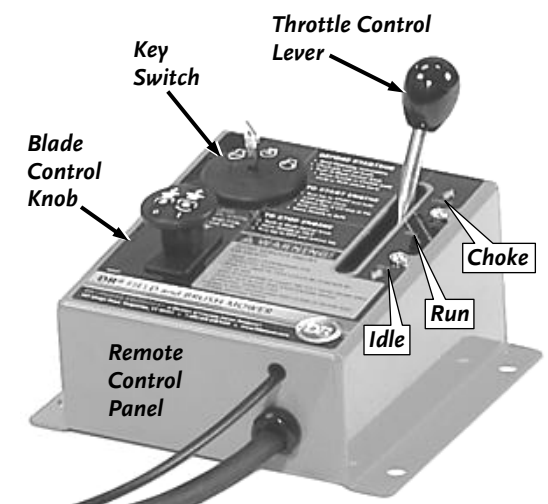

Figure 22
1. Engage the Blades by turning and holding the Key to the furthest right position as you pull UP on the Blade Control Knob (**Figure 22**). Release the Key and it will return to the run (middle) position.
1. Engage the Blades by pulling UP on the Blade Control Knob (**Figure 22**).
1. Push DOWN on the Blade Control Knob (**Figure 22**).